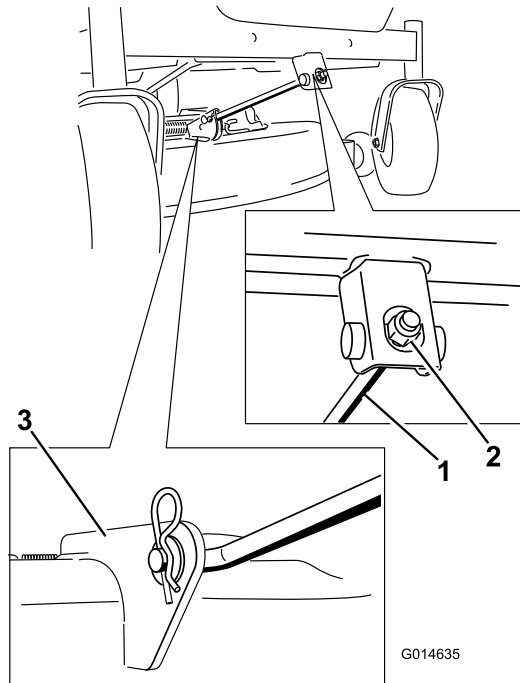

Figure 63
4. Remove the hairpin cotter from the front support rod, and remove the rod from the deck bracket (Figure 63).
6. Attach the front support rod to the mower deck with the clevis pin and hairpin cotter (Figure 63).